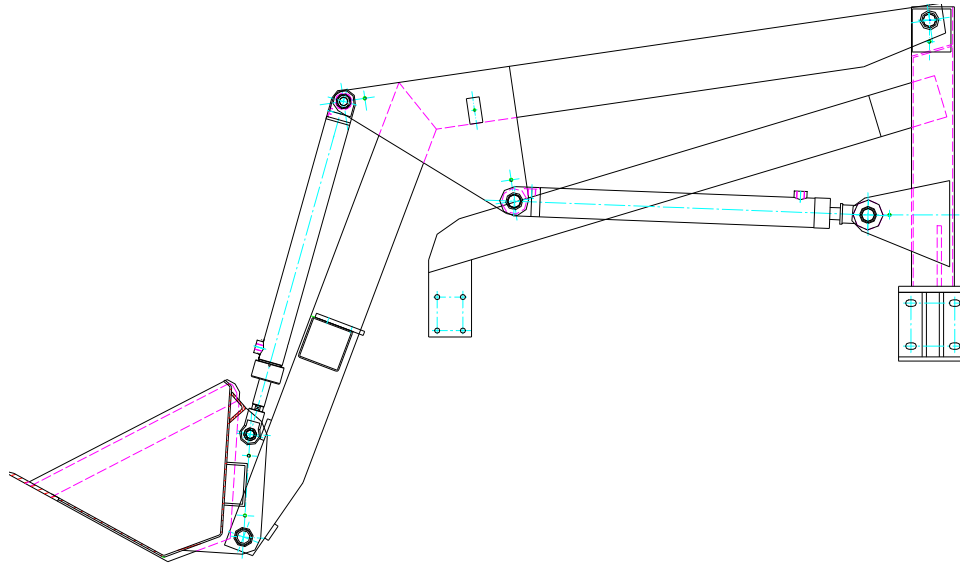

Fig.2-2 Common model (no quick-link)
2.1.1 Common model (As shown in Fig.2-2)